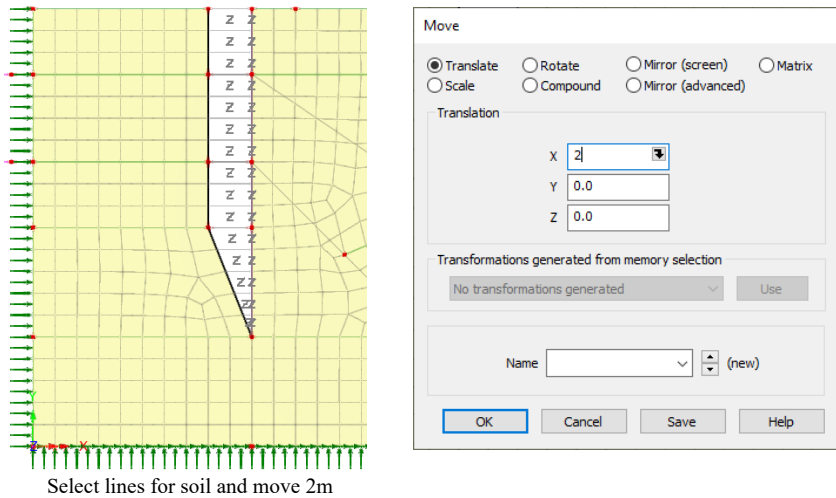

Figure 62: Close gap between soil and wall
- Select the four lines representing the soil to the left of the wall and click on **Geometry > Line > Move....** Enter a distance of **2** in the X direction and click **OK** (figure 62).